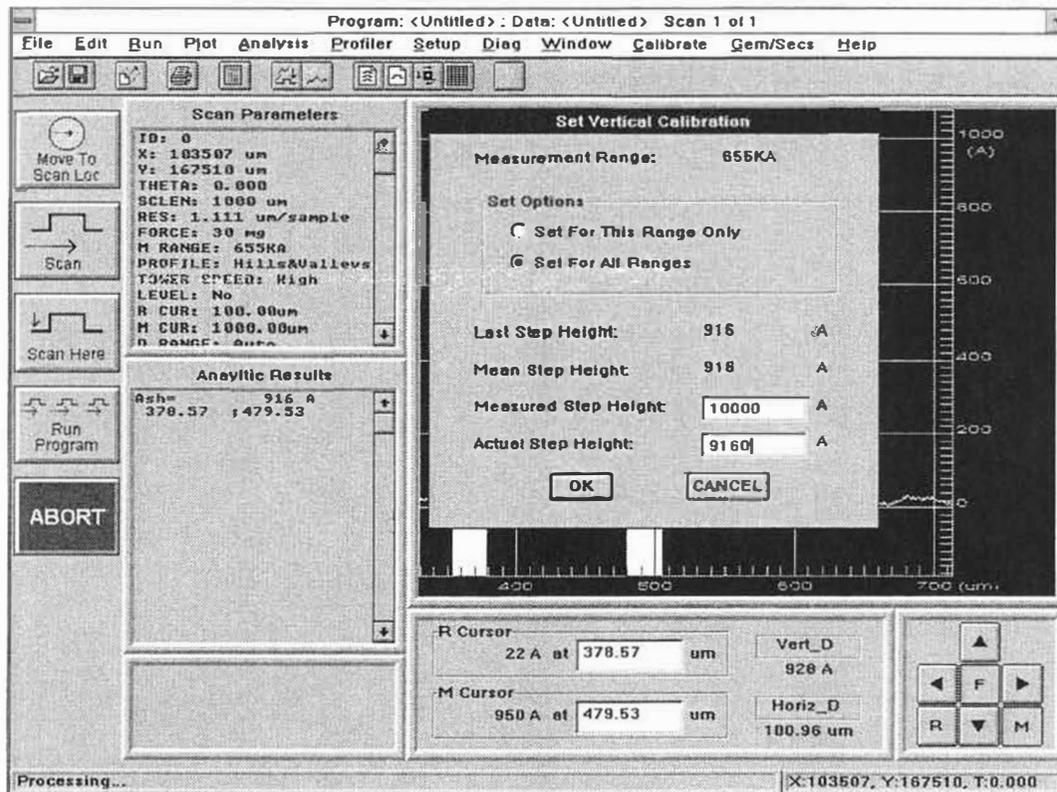

Figure 10-4. Set Vertical Calibration Dialog Box
2. Click-on "Set Vert. Calibration" from the menu. A dialog box will be displayed permitting the vertical calibration to be set (see Figure 10-4).